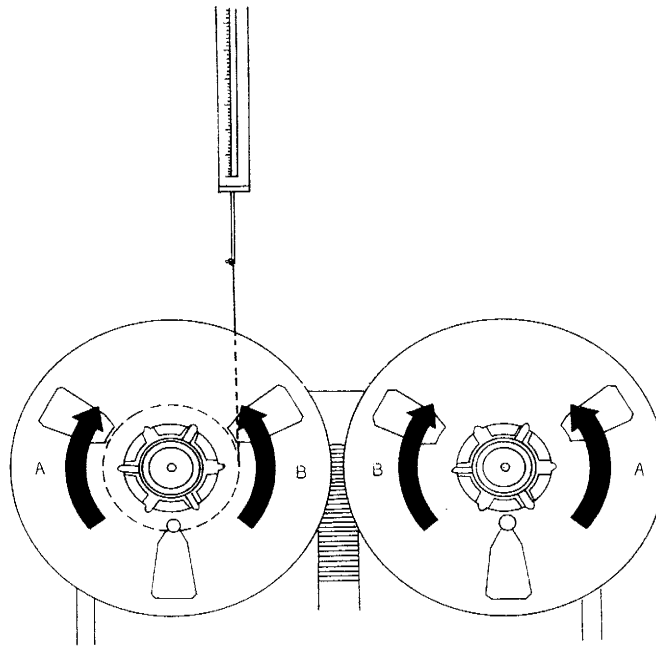

Figure 6-2 Brake Measurement
3. Insert the hook of a 500g (0-16 ounce) spring scale through the loop and hold the spring scale upright as shown in Figure 6-2.
4. Pull on the scale slowly to make the reel rotate counterclockwise (direction "B" in Figure 6-2).
6. Repeat steps 3 and 4 to make the reel rotate clockwise (direction "A" in Figure 6-2).